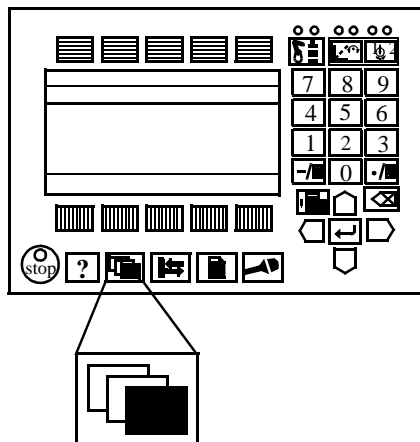

Figure 18 The Misc. window key from which the Service window can be selected
1. Press the **Misc.** window key (see Figure 18).